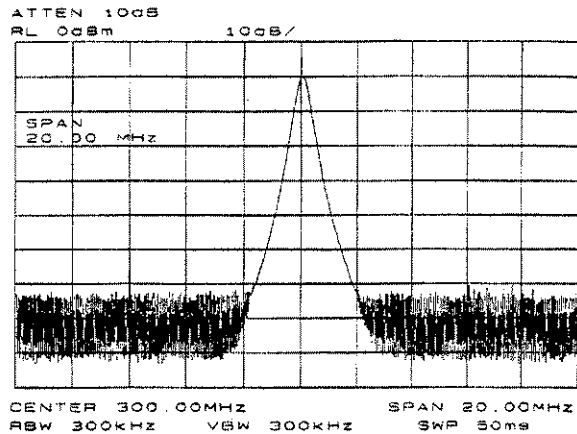

Figure 1-4. Frequency Span Reduced to 20 MHz
2. Set the frequency span. Press **SPAN**. Note that SPAN is now displayed in the active function block, identifying it as the current active function. To reduce the frequency span—for example, to 20 MHz—either key in 20 **MHz** or use the step down-arrow key to “step down” to this value. (Like data keys, step keys can also be used to change the numeric value of the active function.) The resulting display is shown in Figure 1-4. Note that the resolution and video bandwidths are coupled to the frequency span; they are automatically adjusted to appropriate values for a given span. Sweep time is also a coupled function.